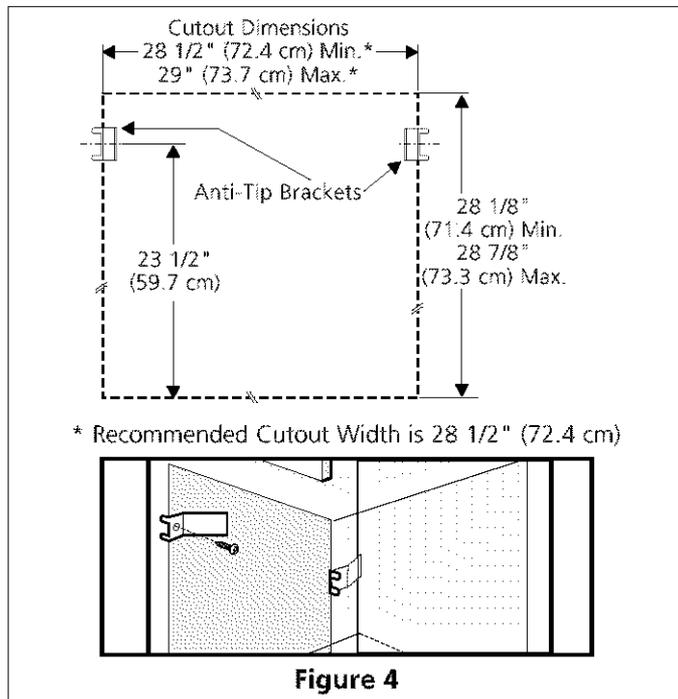

Figure 4
2. Install the anti-tip bracket in the cabinet as shown on figure 4. **Note:** To prevent damage to cabinet, it is recommended to drill $1/16"$ (0.16 cm) dia. pilot holes before installing the anti-tip brackets.